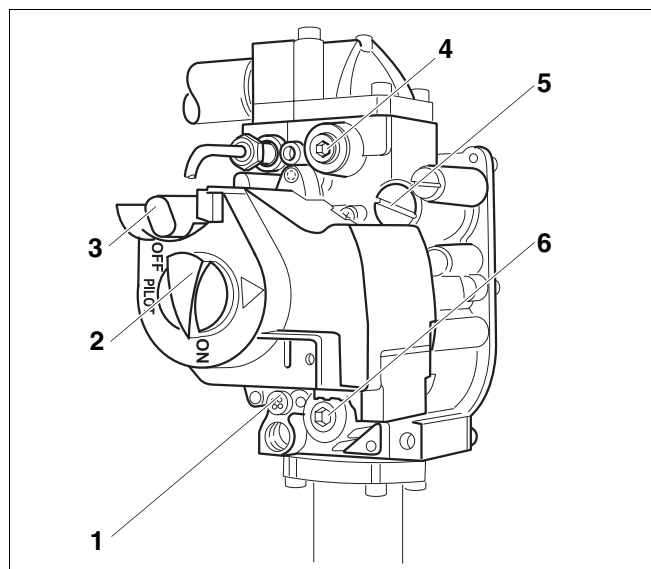

Fig. 37 G124X SP gas valve
46. Remove safety screw for pilot burner pressure setting (→ Fig. 37, page 38). Turn the inner adjustment screw clockwise to reduce the pilot flame and counterclockwise to enlarge the pilot flame.
- 47. After adjustment tighten the pilot burner pressure adjustment safety screw (→ Fig. 37) again.
- 48. Turn gas valve ON/OFF switch (→ Fig. 37) counterclockwise to ON position. The gas valve ON/OFF switch can only be set to ON if the red reset button is out.
- 52. If the main burner has ignited, the gas valve must be checked for leaks with soap solution. If no leaks are found, continue with step 54. If leaks have been found, switch ON/OFF switch on gas valve (→ Fig. 37) clockwise to the OFF position. Disconnect the heating system from the power supply.
56. Turn gas valve ON/OFF button (→ Fig. 37) clockwise to OFF position. The main burner flame and the pilot flame are extinguished.